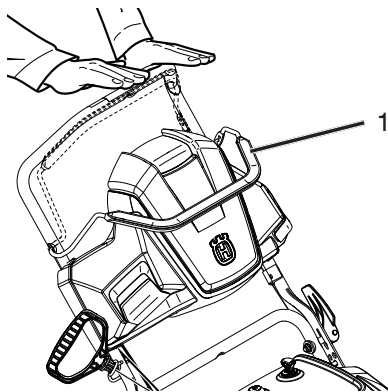

Figure 21
1. Release the control bar to remove the slack in the control cable (Figure 21).